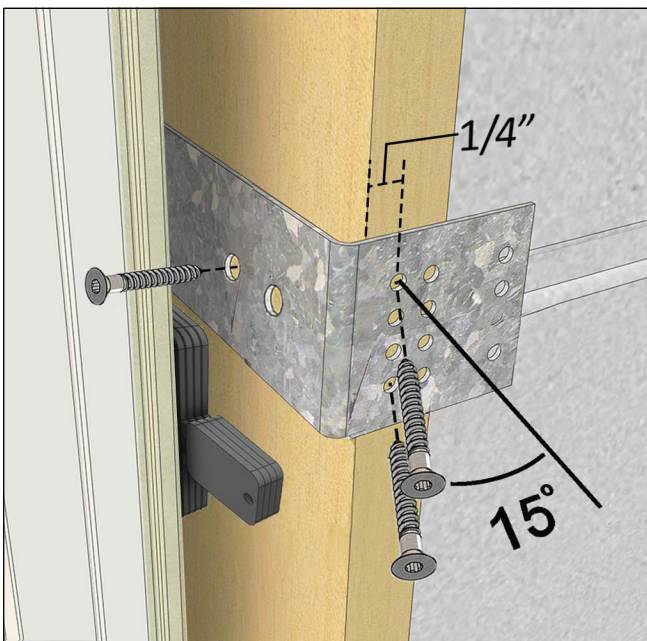

Figure 34
8. Bend brackets around framing member and attach with the #8 x 1-5/8" screws. Angle screws approximately 15° away from the window. Always shim above or below brackets. Add fasteners through the holes shown on Casement/Awning products as well. See Figure 34.